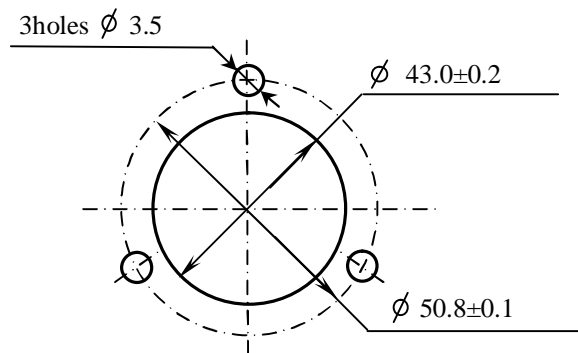

Figure C.8 – Mounting Dimensions of the ZBG-5-003-100 Hand Wheel
13.3.2.2 The holes positions for installing the ZBG-5-003-100 hand wheel is given in Figure C.8.